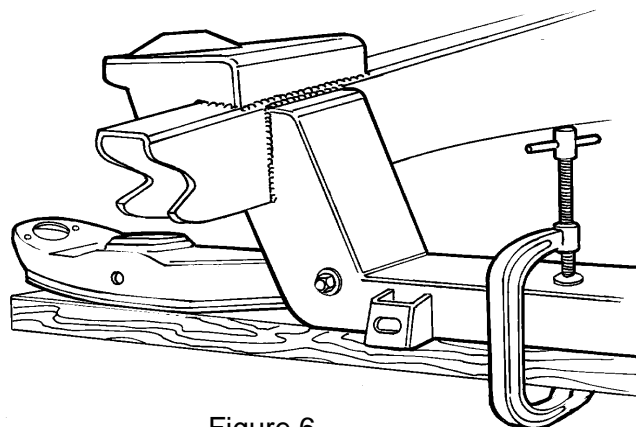

Figure 6
8. The radiator support is the last item. Center the support on the front of the crossmember and clamp or tack in place. Measure up from the top of the support to the top of the frame directly above the radiator perch, using a straight edge across the top of the frame rails. That dimension should measure 4-1/4", as shown in Figure 6. If it is too high and the dimension is less than 4-1/4", trim the base of the radiator support to bring it down to that dimension. Also check the clearance to the steering rack if any trimming is done to the radiator support. If the support is low, the radiator cradle assembly can be shimmed up to its correct position when it is bolted to the radiator support. Please note that this model car does not accept the power rack and pinion rack without serious modifications to the factory Ford geometry design, due to the much larger pinion housing and hydraulic lines. They interfere with the stock radiator cradle. Power steering is absolutely not recommended for this car even if it would fit. The light front end weight, compared to a Pinto, coupled with the extra ease of power steering, will cause you to lose the feel of the car on the highway.
9. If you are using factory lower control arms and strut rods you will continue here. Use the lower control arm and strut rod for locating the rear strut rod supports and gussets. Using a 2 x 4 and a C-clamp, install the control arm as shown in Figure 6.